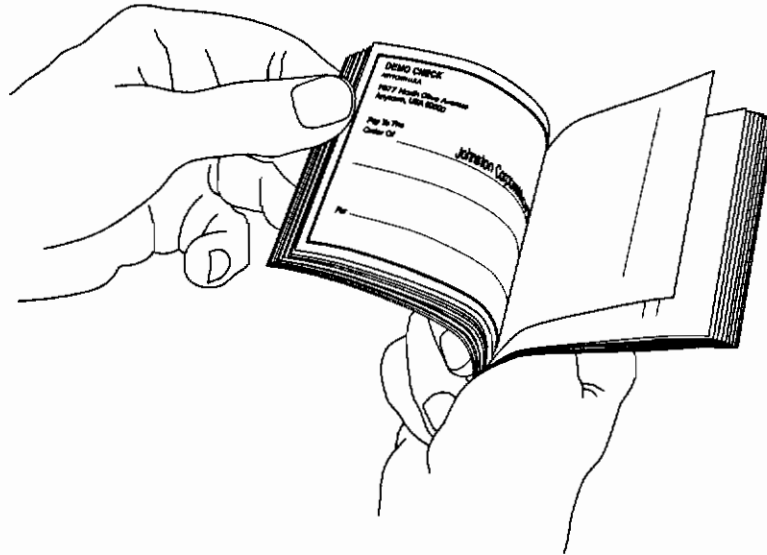

**Figure 3-1. Check Orientation - Insertion**
1. With the front of the check facing the center of the unit and the MICR line closer to the bottom, feed the check into the **Manual Single Feed Input Slot**, as shown in Figure 3-1.